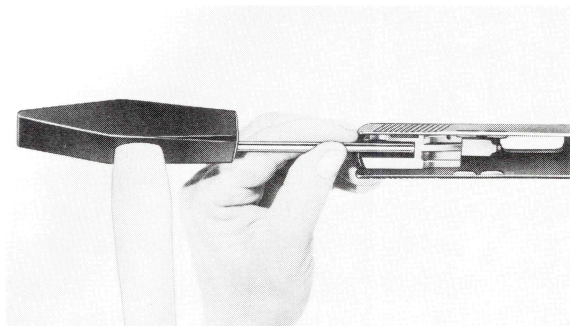

Fig. 11
- By lightly tapping a mandrel dia. 5 mm, drive the bolt head carrier approx. 10 mm forwards until the firing pin and the compression spring (18) can be removed (Fig. 11).